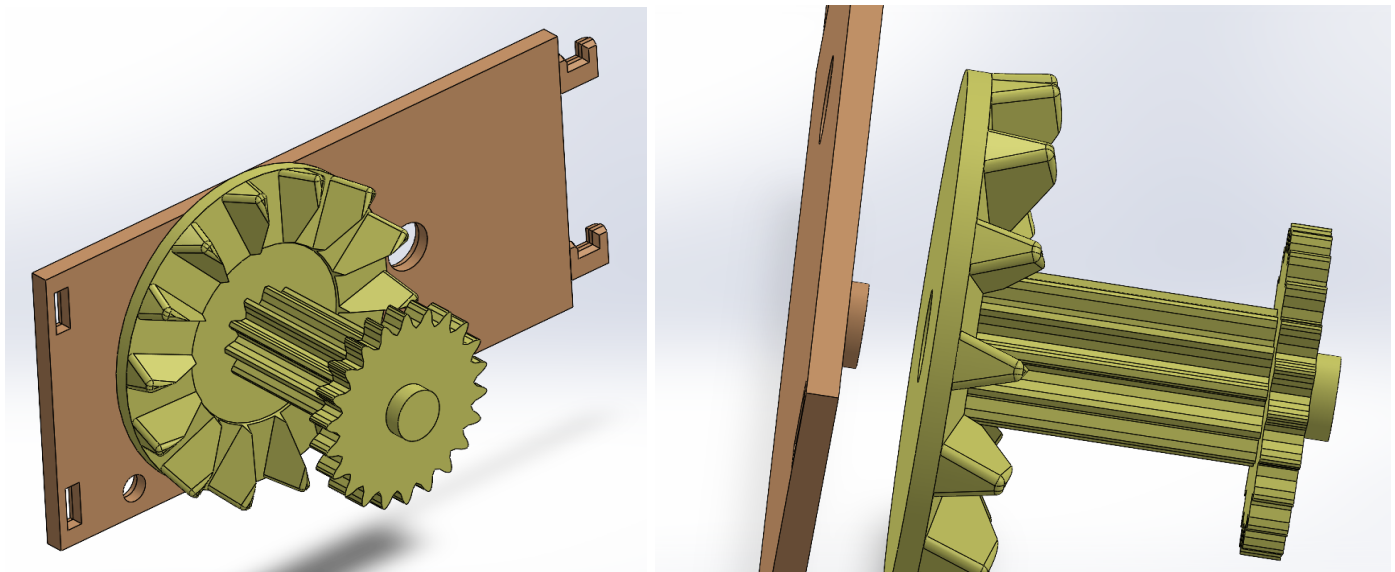

FIGURE 3
STEP 3: In the third step we take the wall numbered 11 and the gear numbered 20 and put them together as seen in figure 3.